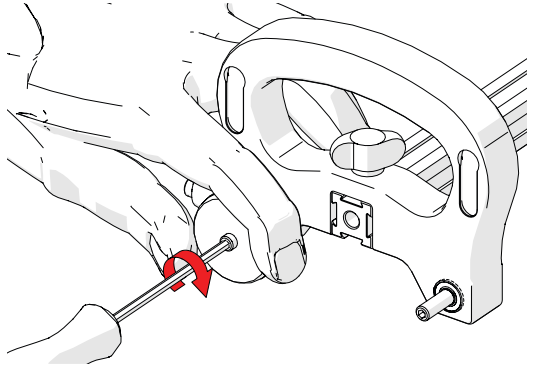

Fig. 16 - Wheel removal
1. Tightly grip the magnetic wheel to be removed. Using the 3 mm hex driver, loosen the magnetic wheel from the axle (Fig. 16).